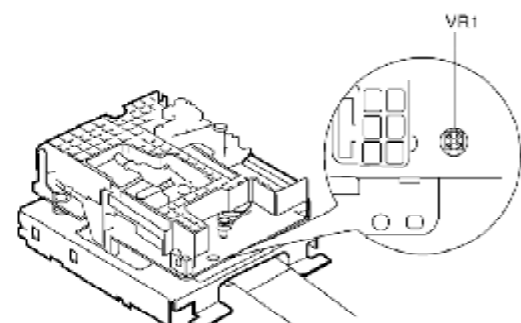

Fig.10
6. Press the CD EDIT button and confirm that the reading of the laser power meter is within the specified range. If it is higher than 800 uW, adjust by turning VR1 and set to lower than 880 uW. (Refer to Fig.10.)
(Refer to Fig.10.)